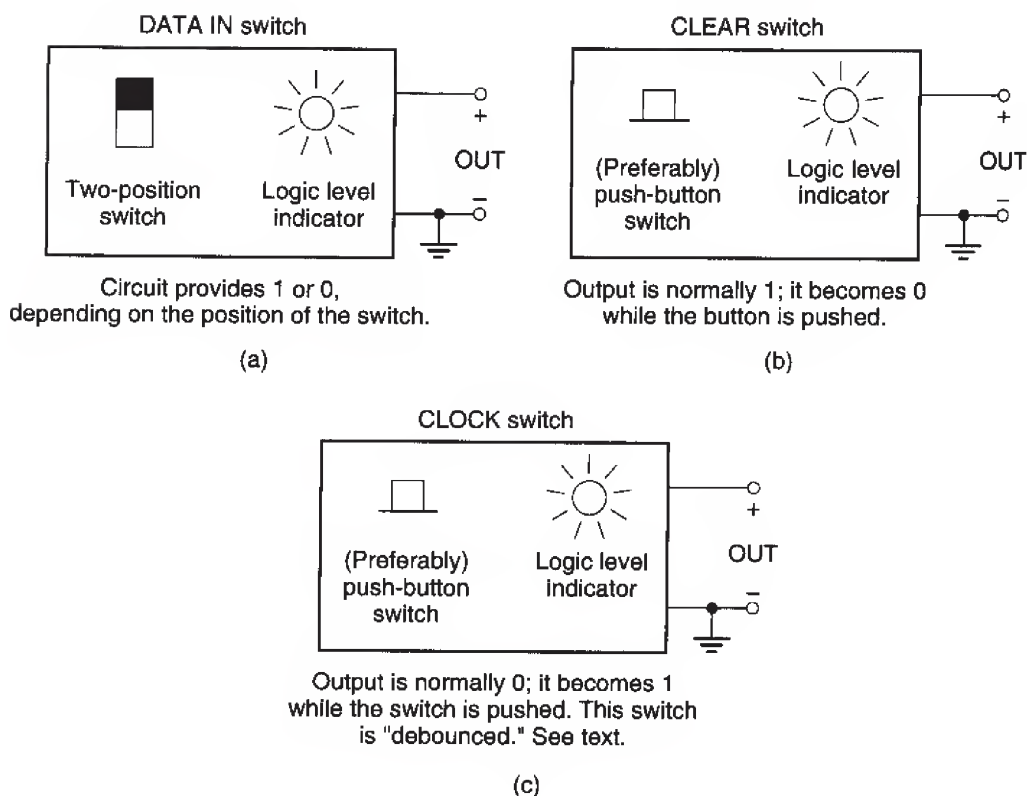

Fig. 1
1. **DATA IN switch:** When we need voltages that correspond to a logic 1 or 0, and when the device to which these are fed is *not* sensitive to the details of the *transition* between these two levels, we can use the *data in* switch shown in Fig. 1(a). Depending on the position of the switch, a logic 1 or 0 appears at its output and *stays* there until the switch position is changed. An LED logic level indicator should be connected to the switch output; this indicator will normally be available on your digital experimentation breadboard. Verify the operation of the circuit by flipping the switch back and forth and observing the indication of the LED.
2. **CLEAR switch:** The *clear* switch in Fig. 1(b) provides a signal that is normally a logic 1. When the push-button switch is pushed, the output becomes a logic 0. As soon as the switch is released, the output goes back to its normal logic 1. *If the switch*
3. **CLOCK switch:** The clock switch in Fig. 1(c) has an output that is normally 0 and becomes a "clean" 1 for as long as the switch is pressed.1 If your CLOCK switch is a two-position one, maintain it at the logic 0 position; when you are asked to push (and release) the clock button in the description that follows, move the switch to the logic 1 position and then back to the logic 0 position. As before, an LED indicator should be connected to the output of the switch. Test the operation of this circuit.